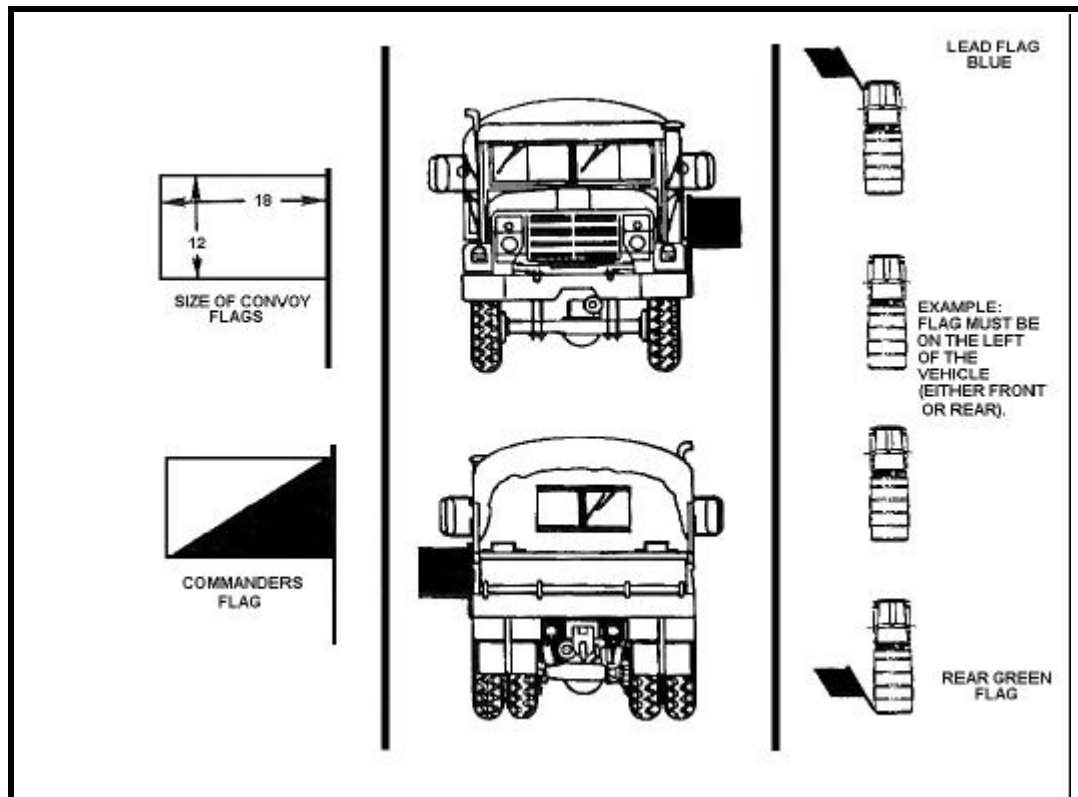

Figure 5-3. Flag placement on a vehicle
e. **Convoy Identification.** Each column should be identified by a blue flag on the lead vehicle and a green flag on the rear vehicle. Flags should be mounted on the left of the vehicles, either front or rear. They must be positioned so that they do not interfere with driver vision or functional components of the vehicle. When movement is at night, the lead vehicle shows a blue light and the rear vehicle a green light. The vehicle of the convoy commander and the march unit commanders must display a white and black diagonal flag on the left front bumper. This flag is divided diagonally from the lower left corner to the upper right corner with the upper left triangle white and the lower right triangle black. Trail party vehicles carry an international orange safety flag. State and local police or MP escort vehicles do not display convoy identification flags. See Figure 5-3 (page 5-16) for illustrations of flags and flag placement.